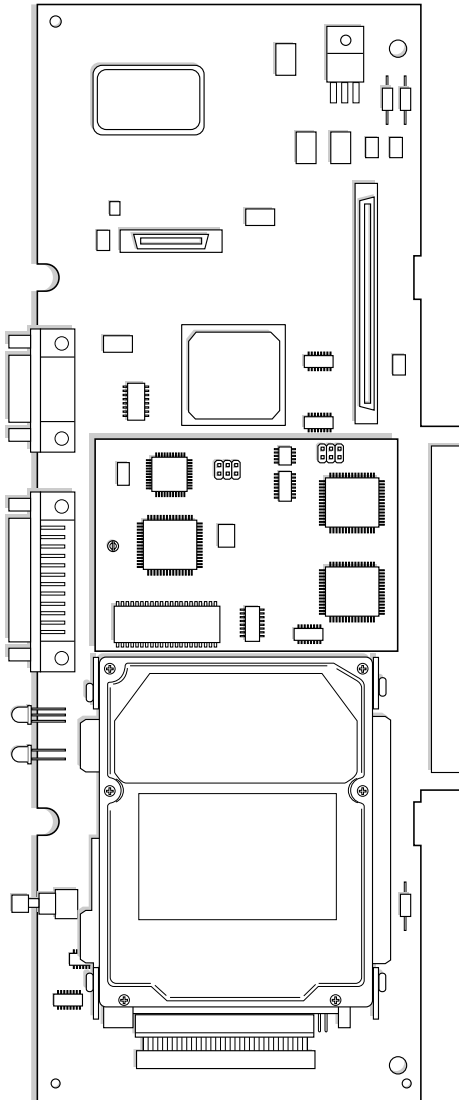

FIGURE 3-13 SVMi-8 CARD
The SVMi-8 card is installed in DCS slot on the expansion cabinet. Only one SVMi-8 can be installed in an iDCS 100 system and it counts as eight(8) stations of the power supply rating. Check that the cabinet power switch is in the OFF position. Next, position the SVMi-8 card in the grooves of the card guide and gently slide the card in until it makes contact with the connector. Press gently but firmly on the top and bottom of the front edge of the card until the card sits in its connector. Ensure that you have installed the correct power supply. (See Figure 3-13)